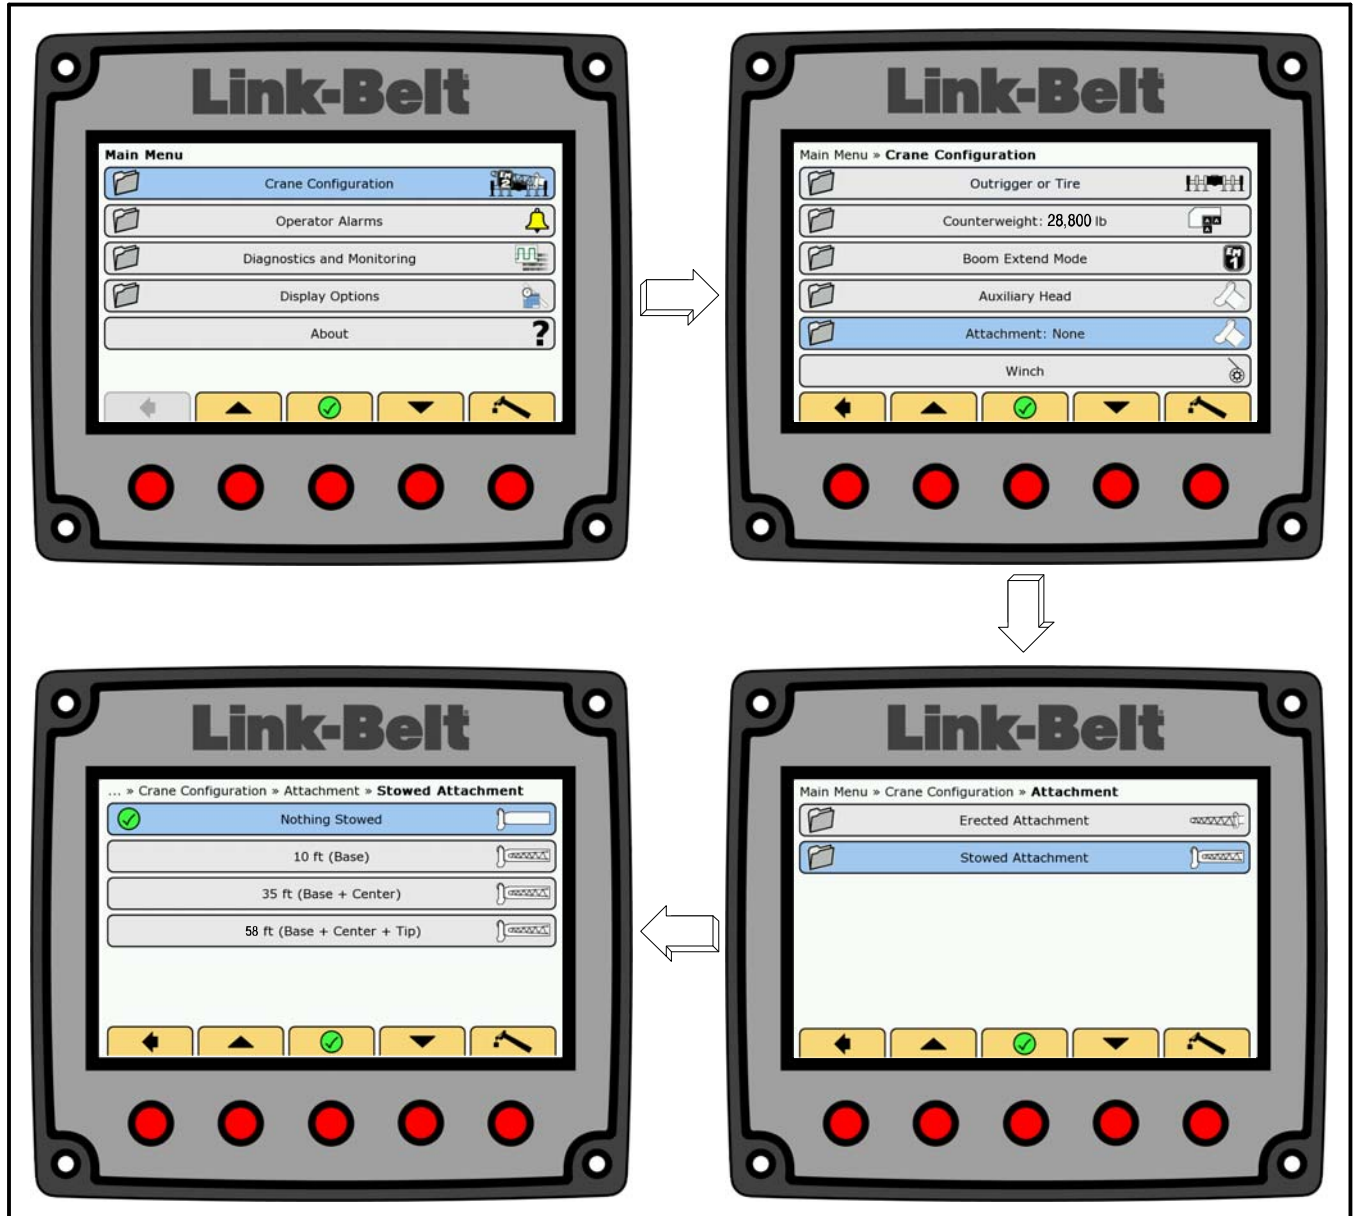

Figure 1–93
17. If the crane is equipped with a fly and was not selected as an erected attachment, on the Crane Configuration menu, navigate to Attachment » Stowed Attachment to display the stowed fly options. Scroll to the desired stowed deduct, if required, and press the OK/Enter button . Refer to Figure 1–93.